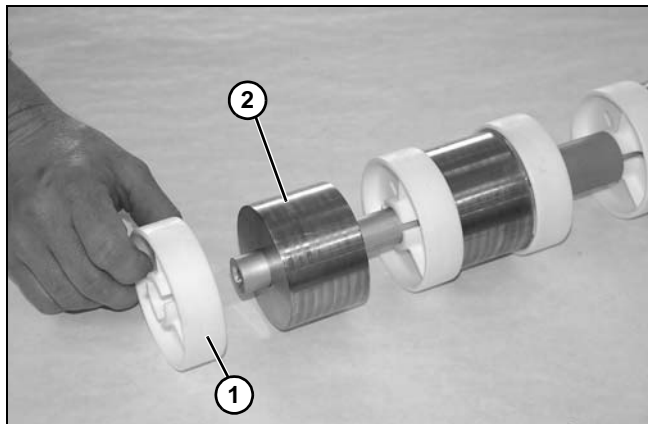

Figure 125
7. Remove idler puck (**Figure 125, item 1**) and weight (**Figure 125, item 2**) off of shaft, as needed, from belt.